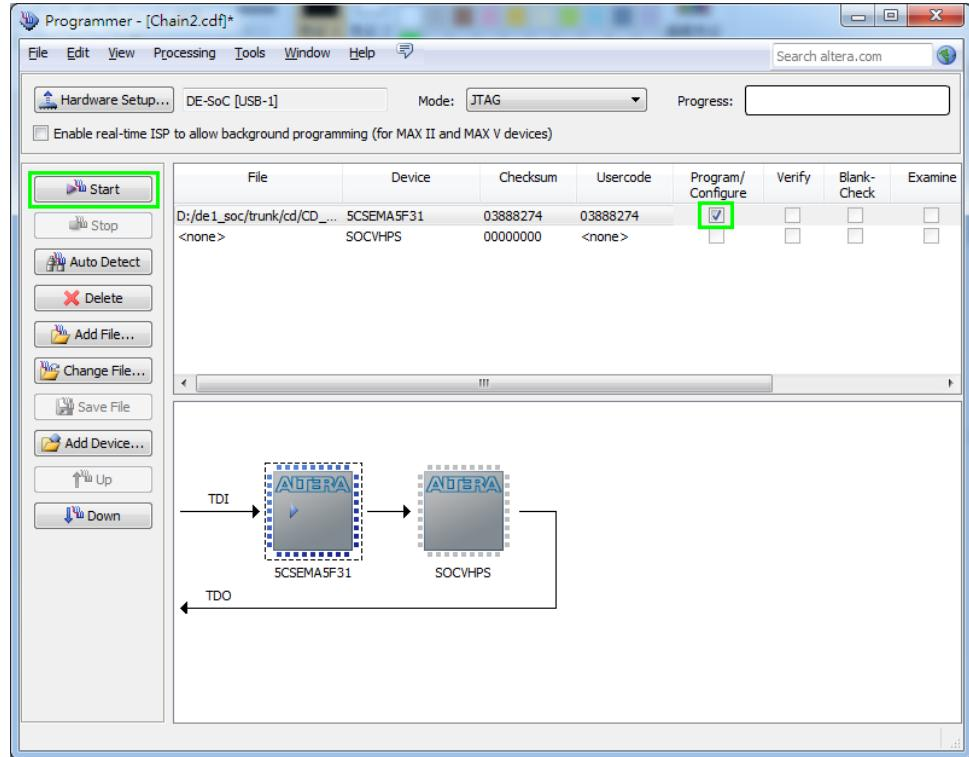

Figure 3-8 FPGA JTAG Programming Steps 6
- Click “Program/Configure” check box, and then click “Start” button to download .sof file into FPGA as Figure 3-8